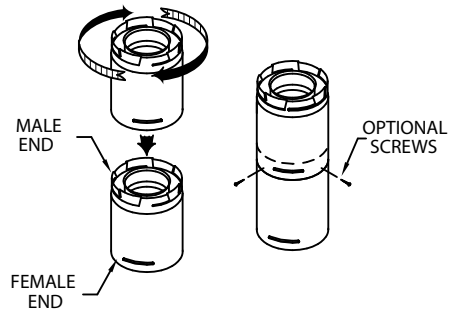
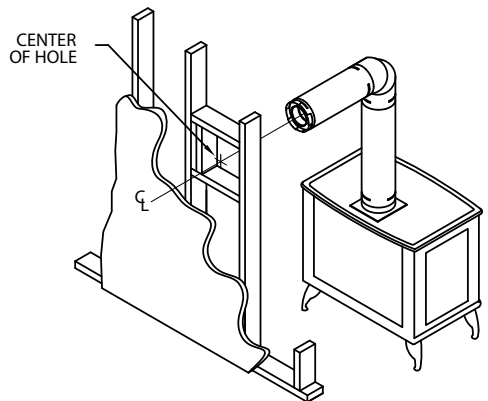

Figure 5
Figure 6
(1) Twist-lock procedure: Line up locking lugs on male and female ends of pipe sections. Insert the male end of pipe into the female end until the locking lugs are covered. Twist the female end clockwise an eighth of a turn to lock sections together (**Fig. 5**). Screws are not required to secure the joint, but are acceptable provided they do not penetrate the inner wall of the vent pipe.
(2) Horizontal runs of vent pipe must be supported to prevent any downward sags. Horizontal pipe sections should be supported at least every 4-feet. Wall Straps can be used for this purpose. Alternatively, plumbers tape or other suitable noncombustible material can be used to support the vent pipe.
(3) DirectVent Pro venting requires no sealant, unless specifically required by appliance manufacturer.
**Step 3.** With the Appliance Adaptor and Pipe Section attached to the appliance, slide the appliance into its correct location, and mark the wall for a square hole of the appropriate size. Refer to **Table 1, page 8** for the correct size square opening unless otherwise specified by the appliance manufacturer's clearance requirements. The centerline of the pipe should line up with the center of the square hole (**Fig. 6**). Cut and frame the square hole in the exterior wall where the vent will be terminated. A Wall Thimble or